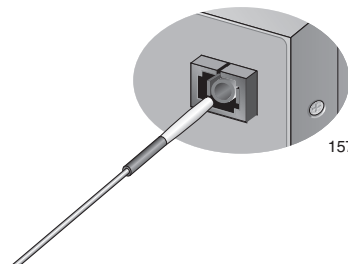

Figure 85. Cleaning a Recessed Ferrule
1. Insert the swab into the adapter as shown in Figure 85 and rub the ferrule tip with the swab.